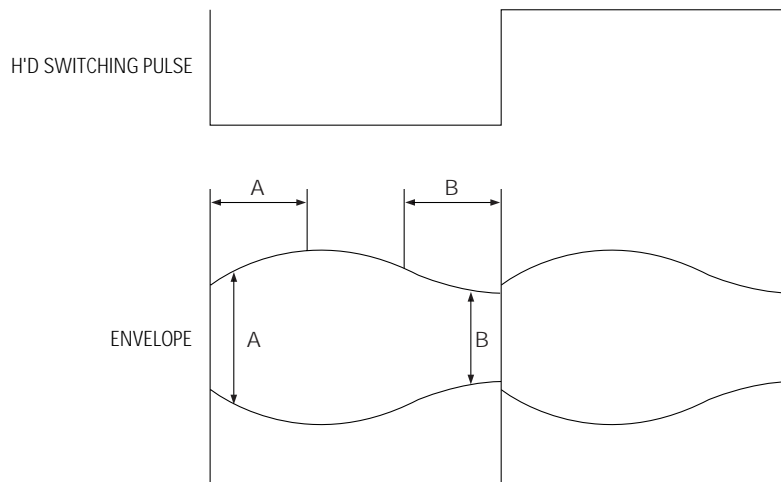

Fig. 3-15 Adjustment Points
- 4) If the section A in Fig. 3-15 does not meet the specification, adjust the guide roller S up or down.
- 5) If the section B in Fig. 3-15 does not meet the specification, adjust the guide roller T up or down.